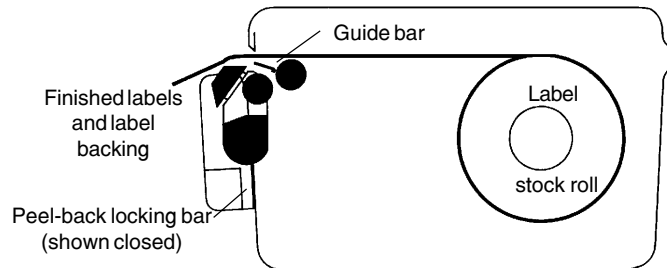

Figure 4. Batch mode label feed path
- For **batch label presentation** (see Figure 4): Position the label stock over the guide bar. While pulling the free end of the stock gently, close the printer. Turn the printer power ON, then press the FEED button once to index the first label.